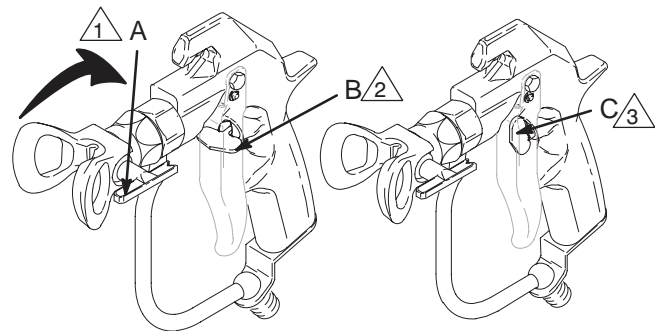

Fig 4
1. If spray tip clogs, release gun trigger, engage gun safety latch (B), and rotate RAC IV handle (A) 180°. See Fig 4.
2. Disengage gun safety latch (C) and trigger gun into waste container. Engage gun safety latch again.